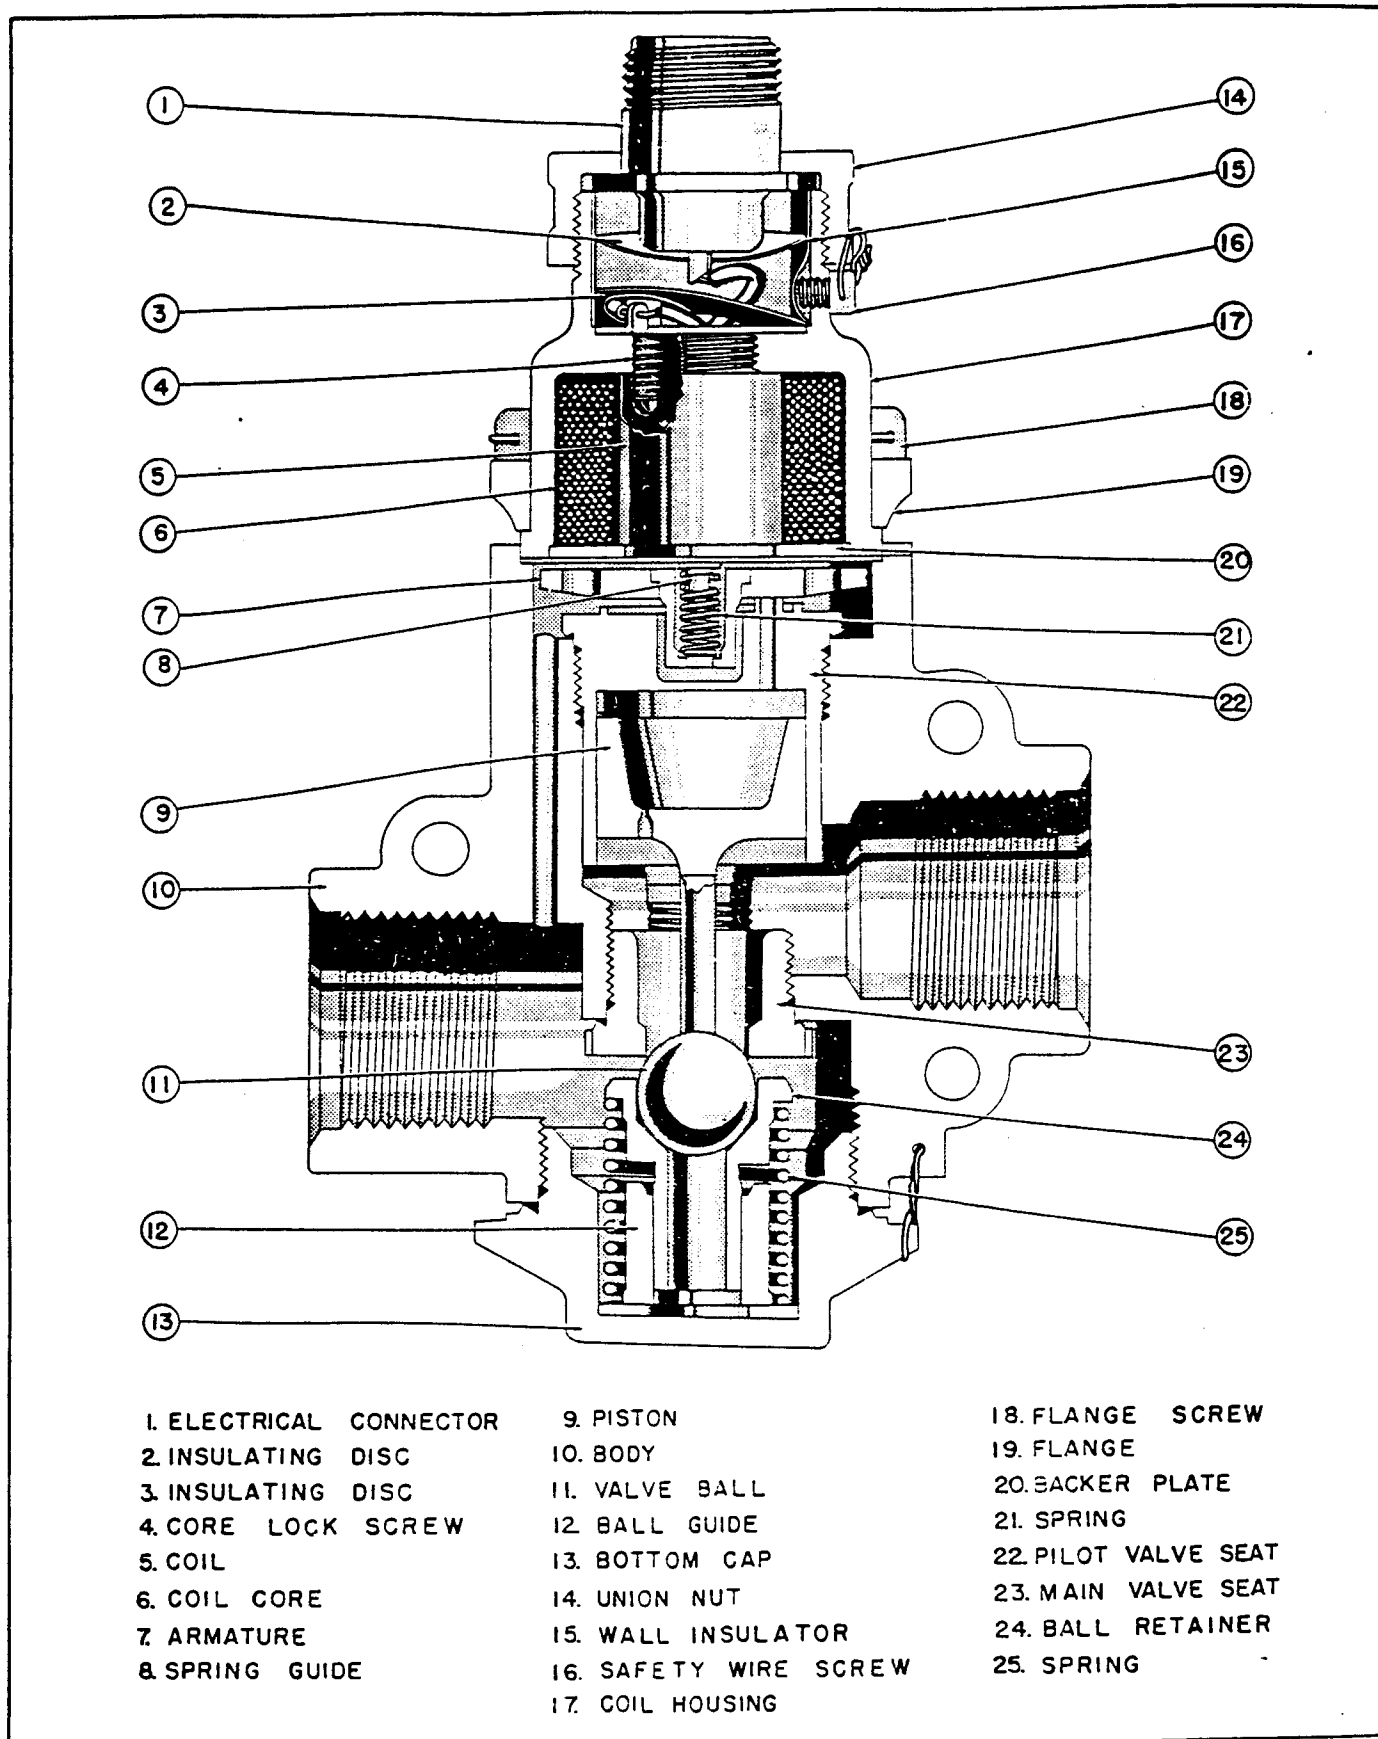

Figure 16. Solenoid Valve - Normally Closed
(7) **SOLENOID CONTROL VALVE** (Normally closed) (General Controls 40R629) See figure 16.
(b) **OPERATION.** (See figure 16.)
(e) DISASSEMBLY.- Refer to figure 16.
(f) ASSEMBLY.- Refer to figure 16.